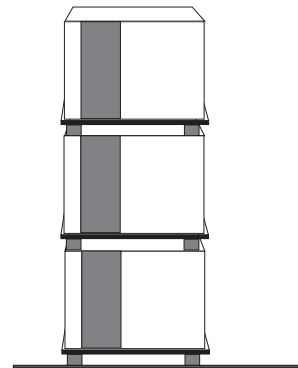

Fig. 5
- The maximum number of circuit breakers that can be stacked on top of each other is shown in figure 5.